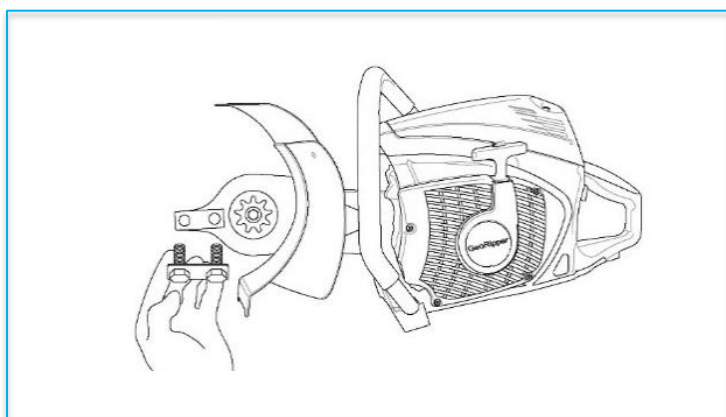

Fig.6
1. Remove the two bolts, spring washers and retaining plate (Fig.6)